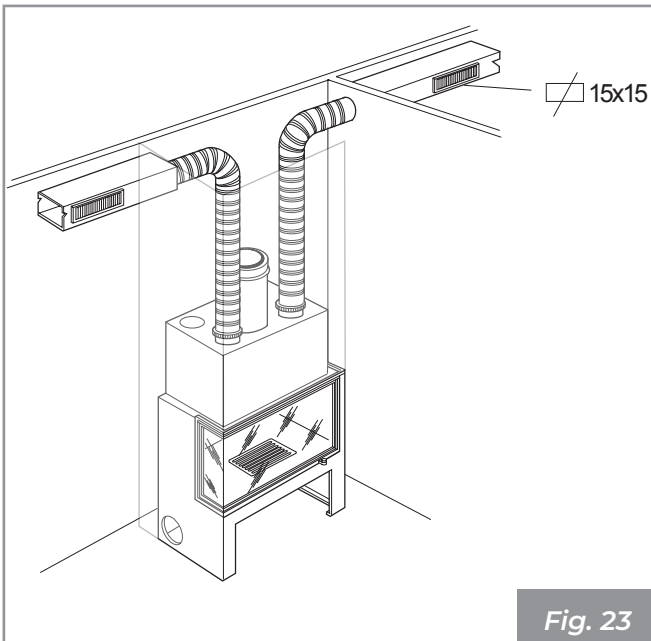

Fig. 23
- Flexible aluminium hose - length up to 6 m on a single duct **(Fig. 23)**;
- Smooth metal pipe - length up to 10 m on a single duct **(Fig. 23)**;